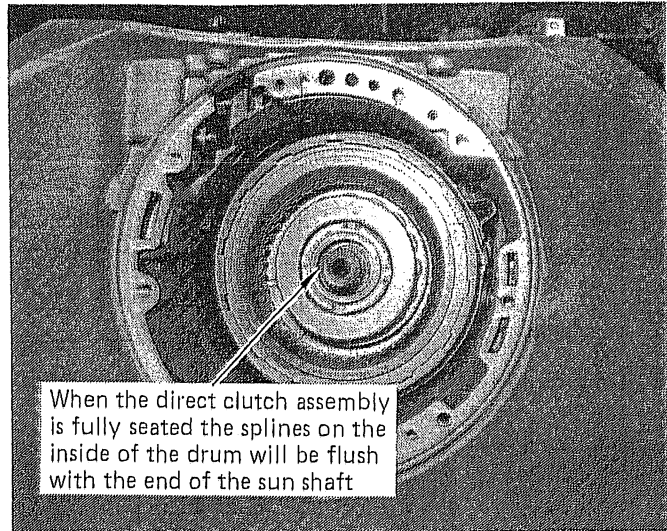

FIGURE 48
**STEP 15.** Install the direct clutch assembly into the case. Hold the drum straight as you install it and rotate slightly to engage the clutches. It may be necessary to hold the intermediate kickdown band in position with a screwdriver to keep it from shifting out of alignment. When the direct clutch housing is fully seated and engaged, the splines of the drum will be flush with the front edge of the sun gear shaft. (See Fig. 48)